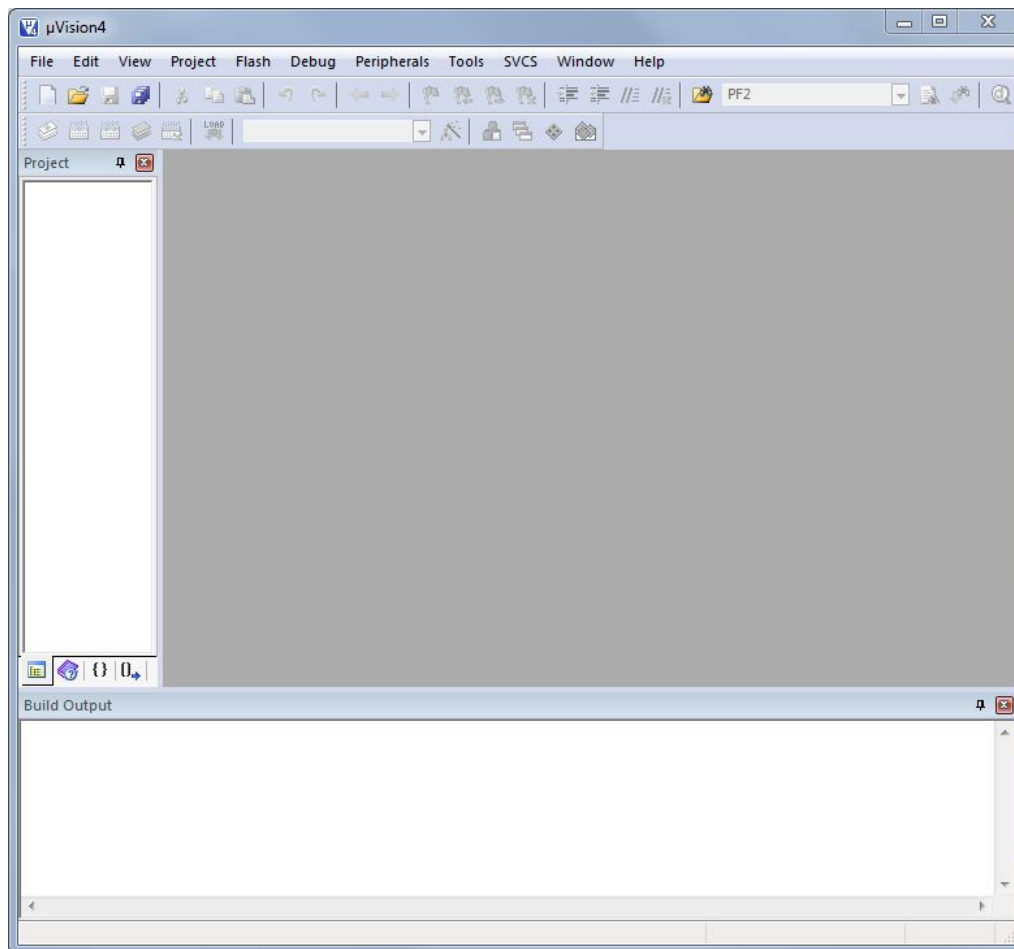

Figure 1.
1. Start the Keil μVision IDE by double-clicking the icon on your desktop or by selecting it from the Windows Start Menu. When the IDE loads, it was a blank screen (see Figure 1).